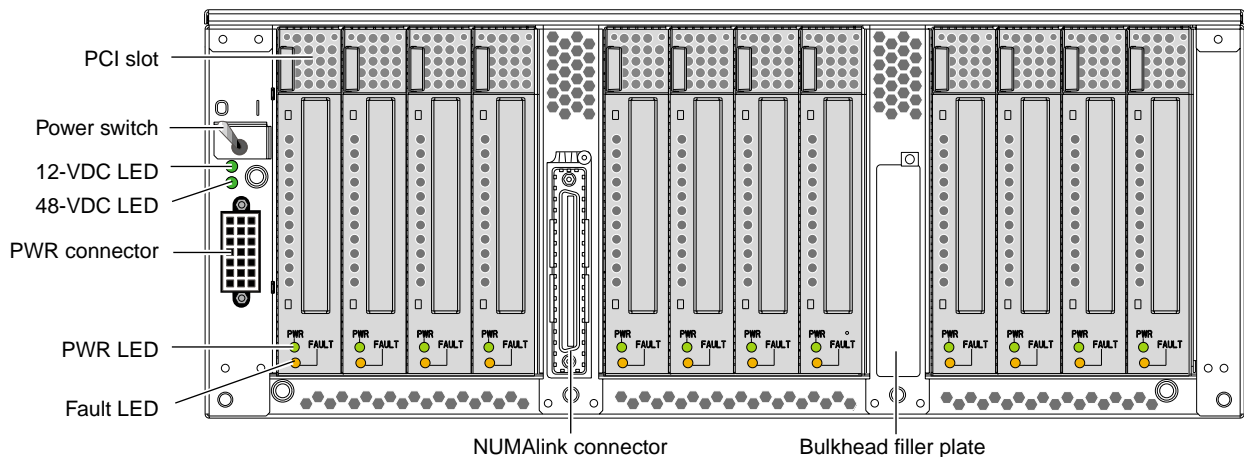
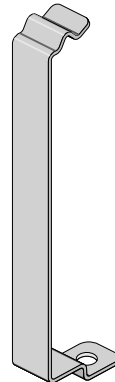

Figure 3-8 Rear View of PCI Expansion Module
Figure 3-14 Bulkhead Filler Plate and Mounting Bracket
The PCI expansion module has the following rear-panel items (see Figure 3-8):
- One **Bedrock ASIC** transfers signals between SGI 300 compute modules and the PCI cards. The Bedrock ASIC is the component that makes the PCI expansion module a peer device to the SGI 300 compute module. Unlike the Bedrock ASIC of the SGI 300 compute module, the PCI expansion module uses only two of the Bedrock ASIC interfaces: the I/O interface (II) and the network interface (NI). The processor interfaces (PI_0 and PI_1) and the memory interface (MD) are not used, because the BIC and the PCI expansion module do not contain any processors or memory.
- One **NUMAlink connector** connects the PCI expansion module to an SGI 300 compute module or a NUMAlink module. The NUMAlink connector is the left connector on the rear of the PCI expansion module (see Figure 3-8 on page 44). The right connector slot is not used; therefore, it contains a bulkhead filler plate to maintain proper airflow through the module (see Figure 3-14).
The BIC is secured to the motherboard with the bracket shown in Figure 3-14.
Figure 3-14 shows the bulkhead filler plate and the mounting bracket.